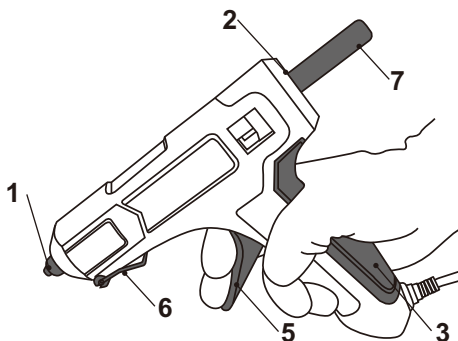

Fig. 5
5. Fold the stand holder (6) up if not required.
6. Always hold the main grip (3) and point the nozzle (1) of the glue gun on the surface to be processed and apply the glue by keeping the trigger (5) pressed evenly. Repeat this step as needed. If it becomes hard to squeeze more glue out, just wait 15 seconds for the new section of glue to melt in the feeding channel (2) (Fig. 5).